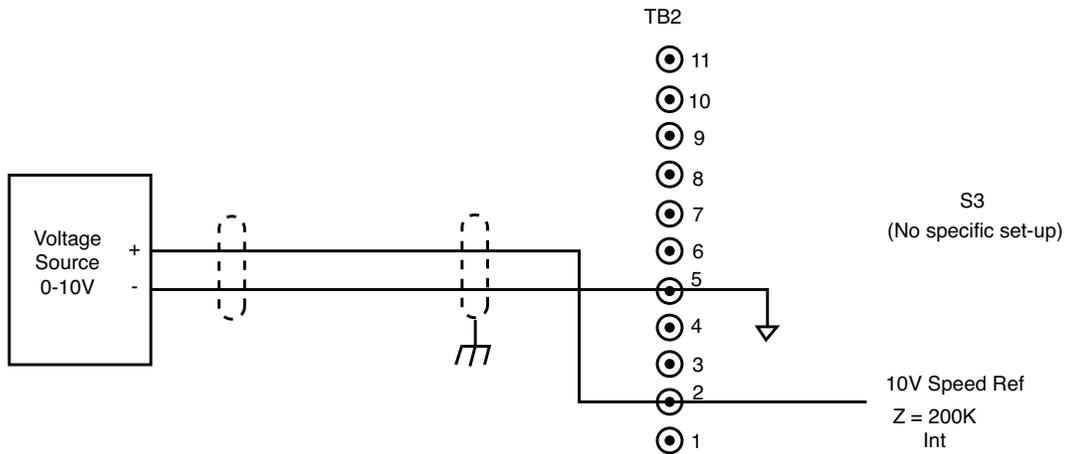

Figure 18. Signal Connection, 0-10 VDC External Speed Reference
4. Be sure the controller has been calibrated correctly for the motor being used. Calibration is performed by changing the position of a Jumper (J4) on the controller control board to comply with Table 2. To change the position of Jumper J4, pull the jumper from the control board and then push it onto the appropriate two pins on the board. For the location of J4, see Figure 18 (page 15).